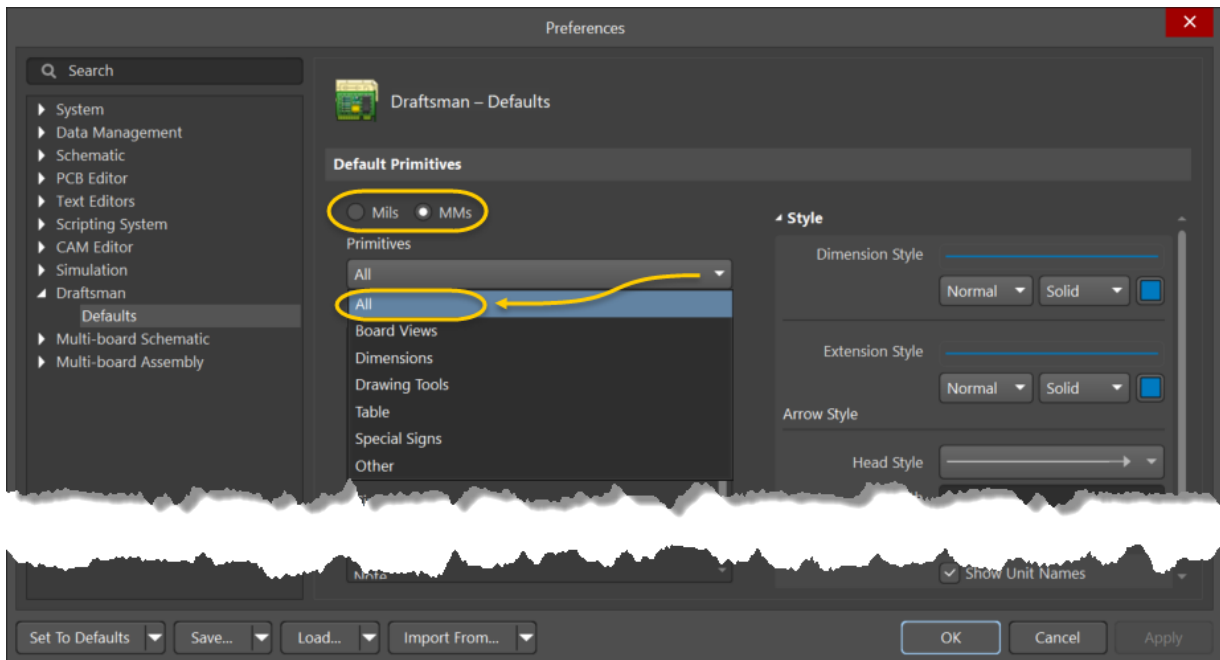

Figure 1. Draftsman Preferences - Default Primitive Drop Down menu
5. The *Primitives* drop down menu provides a means of navigating to the various groups of primitives available to change as shown in Figure 1.